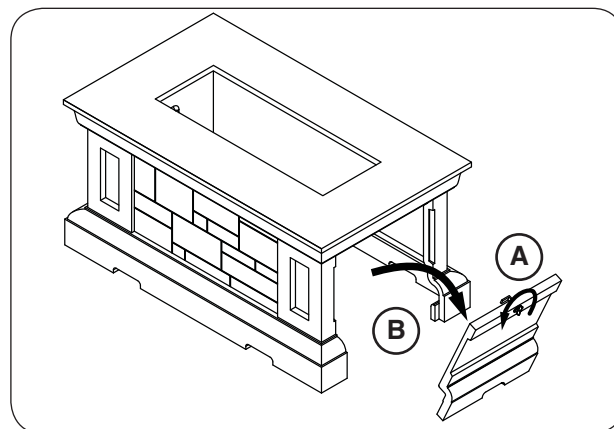

Fig. 17-2 Remove door
2. Remove the storage door by first turning the door handle counter-clockwise, then carefully pulling the door outward (see Fig. 17-2). Store in a safe location.